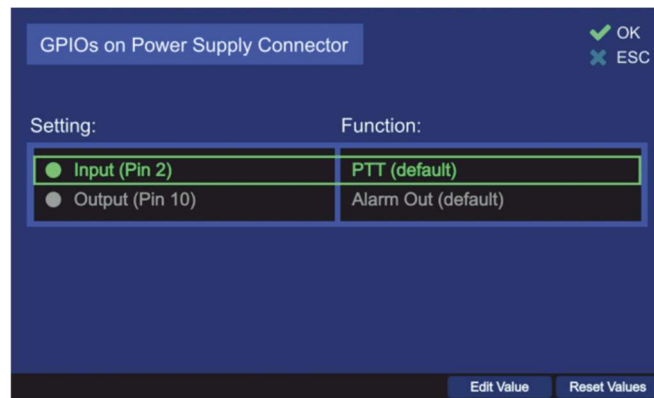

Figure 162. Dialog for setting the GPIOs
- In order to define, which signals are to be allocated to the IOs, select the setting “GPIOs (Power S. Connector)” (s. Figure 142) and press “OK” or the hotkey “Edit Value”. The following dialog appears (s. Figure 162. Dialog for setting the GPIOs).